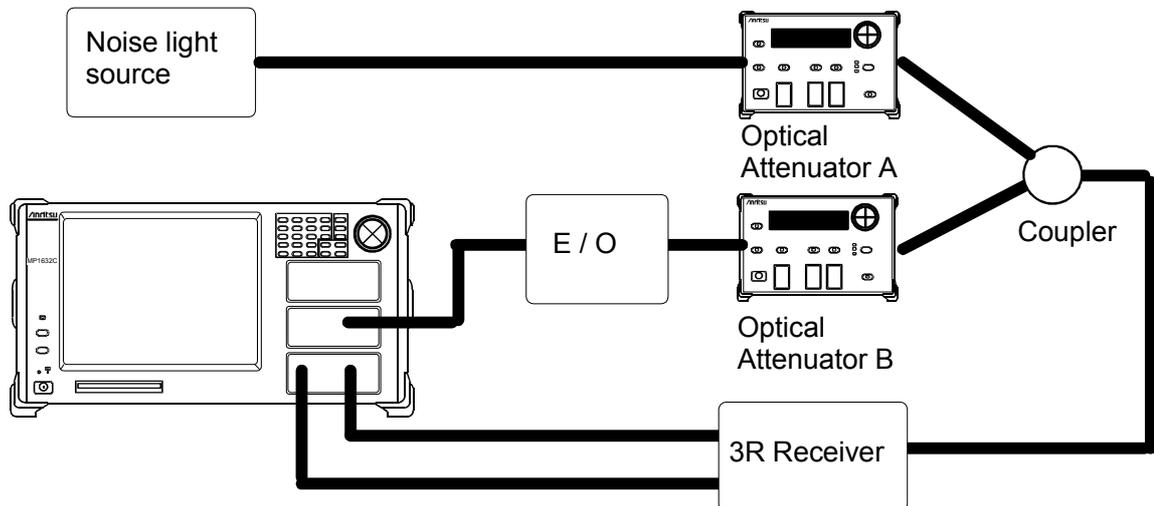

Fig. 7-3 Connecting instruments
1. The connection diagram for each instrument is shown in Figure 7-3.
4. Press Auto Search to open the Auto Search dialogue after setting the attenuation of Optical Attenuator B in Figure 7-3 to 0 dB. Set the dialogue box as shown in Table 7-8.
5. Measurement starts when the measurement start button is pressed. Noise tolerance characteristics of the 3R Receiver can be measured by adjusting the attenuation of Optical Attenuator A in Figure 7-3.